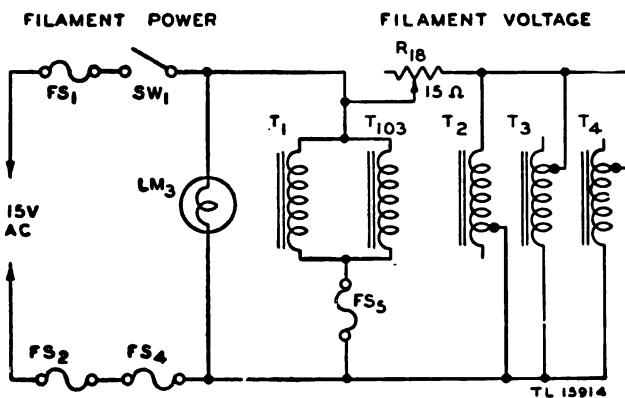

Figure 66. FILAMENT POWER switch—functional diagram.
a. **FILAMENT POWER SWITCH SW_1** (fig. 66). **FILAMENT POWER** switch SW_1 is located on the front panel of the transmitter. When set to ON, it applies a-c power to the primary windings of transformers T_1 , T_2 , T_3 , T_4 , and T_{103} . Transformer T_{103}
e. FIL. VOLTAGE METER M_3 (fig. 66). Filament voltage meter M_3 is a 0- to 10-volt a-c voltmeter